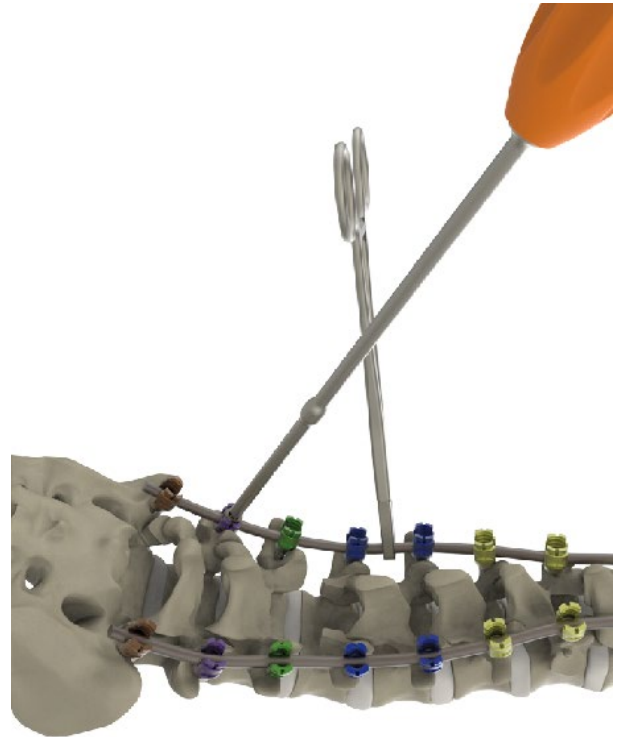

Fig. 9
- Provisionally tighten the set screw (Fig 9).